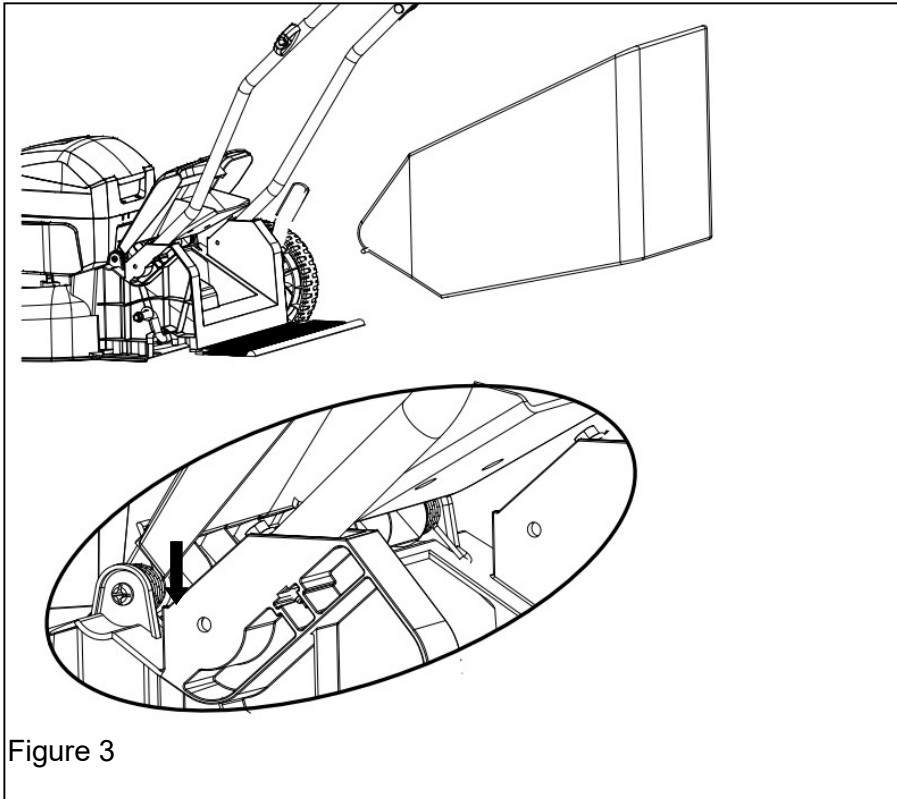

Figure 3
**INSTALLING THE GRASS CATCHER BAG (See Figure 3)**
- Lift the chute cover (1).
- Lift the grass catcher by its handle (2) and place under the chute cover so that the hooks (3) on the grass catcher frame are seated into the slots in the handle bracket.